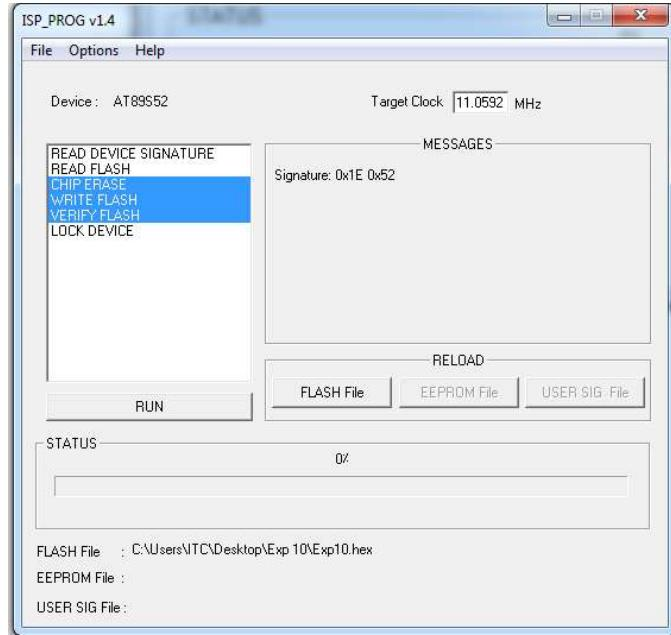

Figure 3.28: Downloading Hex File
- o. Select options and press run as shown in Figure 3.28.